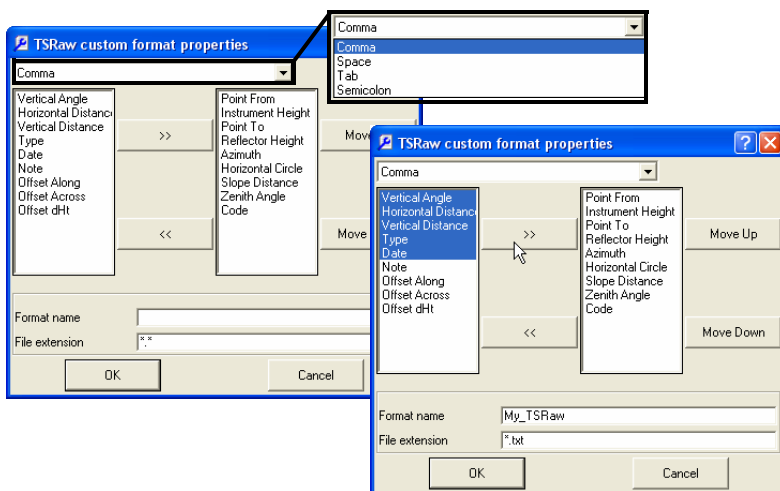

Figure 3-55. Select Delimiters and Add Elements
3. On the *TSWraw custom format properties* dialog box, select the desired delimiter (Figure 3-55).
4. Select the elements to include in the format from the left column and click the move right button (>>) to add it to the right column (Figure 3-55). Use the move left button (<<) to remove elements from the format.